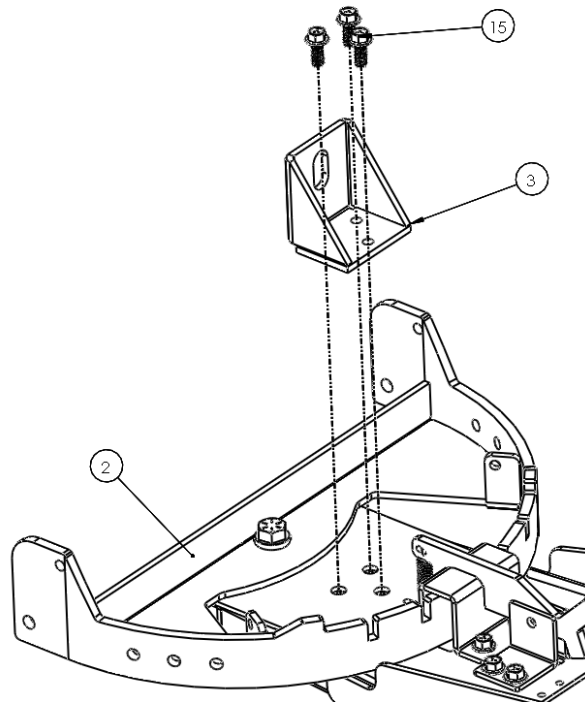

Figure 7
- 7) Install the Winch Attachment Bracket to the Lift Arm using the 3/8" x 1.00" Flange Bolts as shown Figure 7.